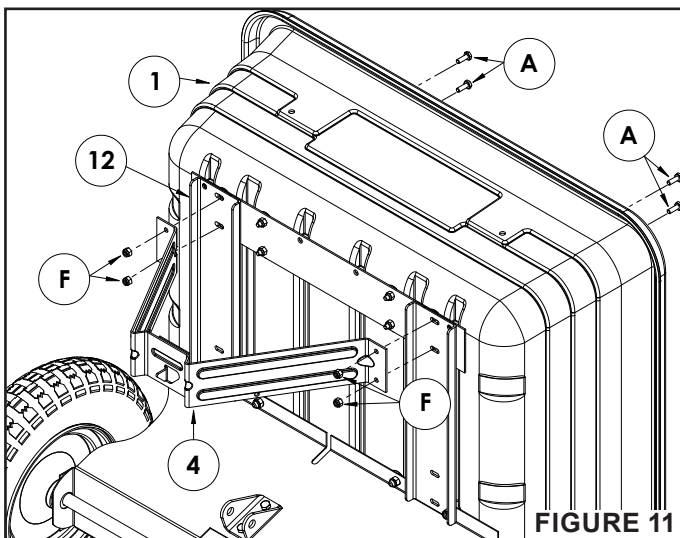

FIGURE 11
STEP 11: (SEE FIGURE 11)
- Install two 1/4" bolts (A) through the outer forward right holes through the poly tray (1), latch stand plate (3), and the front support bracket (12).
- Install the latch stand bracket (4) onto the 1/4" bolts (A). Make sure the latch stand bracket (4) is installed as shown below.
- Secure with two 1/4 nylock nuts (F).